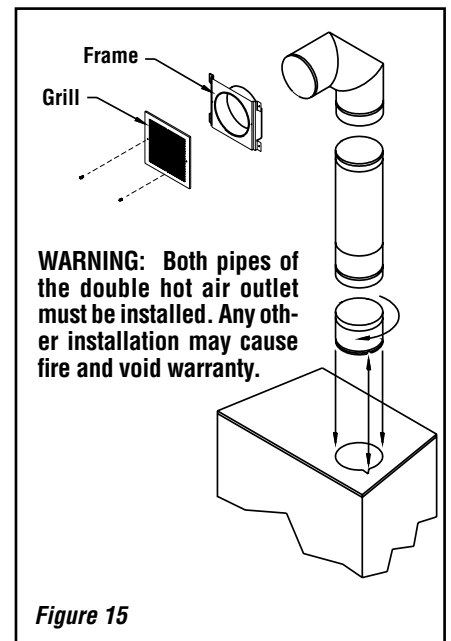

Figure 15
- Remove the plates closing up the 8" dia. holes on top of the fireplace. Then, cut the insulation in order to obtain two 8" dia. openings. Fix the adaptors on the fireplace openings by turning clockwise (**Figure 15**).